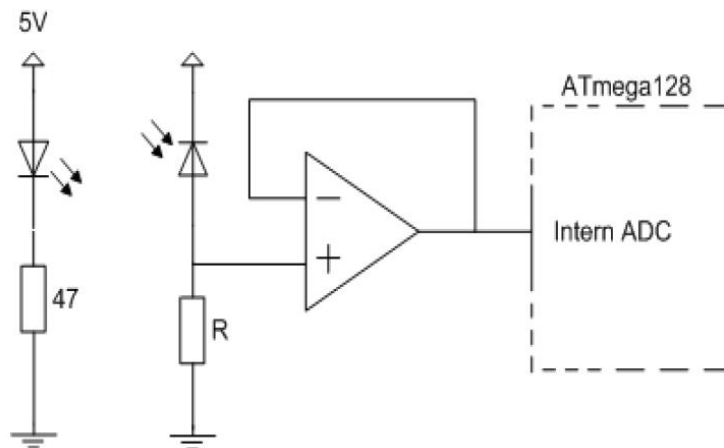

Figure 17 – example of IR assembly
7. Connect the IR diodes in a way that makes it possible to detect when the IR beam is blocked. An example is given in Figure 17, and you might also consider implementing an analog filter.